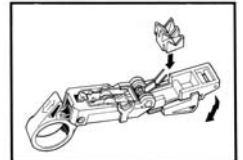

Figure 11
**To change V-block.** Open tool fully (Fig. 11) until the springs holding V-block release. Pull out V-block and replace with selected V-block. **Note!** With **white V-block**, you must position springs in holes.